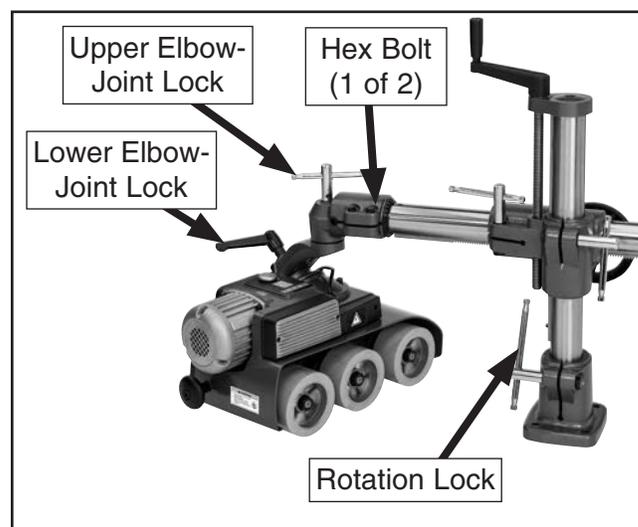

Figure 25. Location of controls for re-positioning power feeder for incline feeding.
Use the controls shown in **Figure 25** to position the power feeder for incline feeding.
1. Loosen rotation lock and swing power feeder off of machine table (see **Figure 25**).
2. Loosen (2) hex bolts on upper elbow-joint, rotate upper elbow to desired angle, then tighten hex bolts (see **Figure 25**) to secure setting.
3. Loosen upper elbow-joint lock and lower elbow-joint lock (see **Figure 25**).